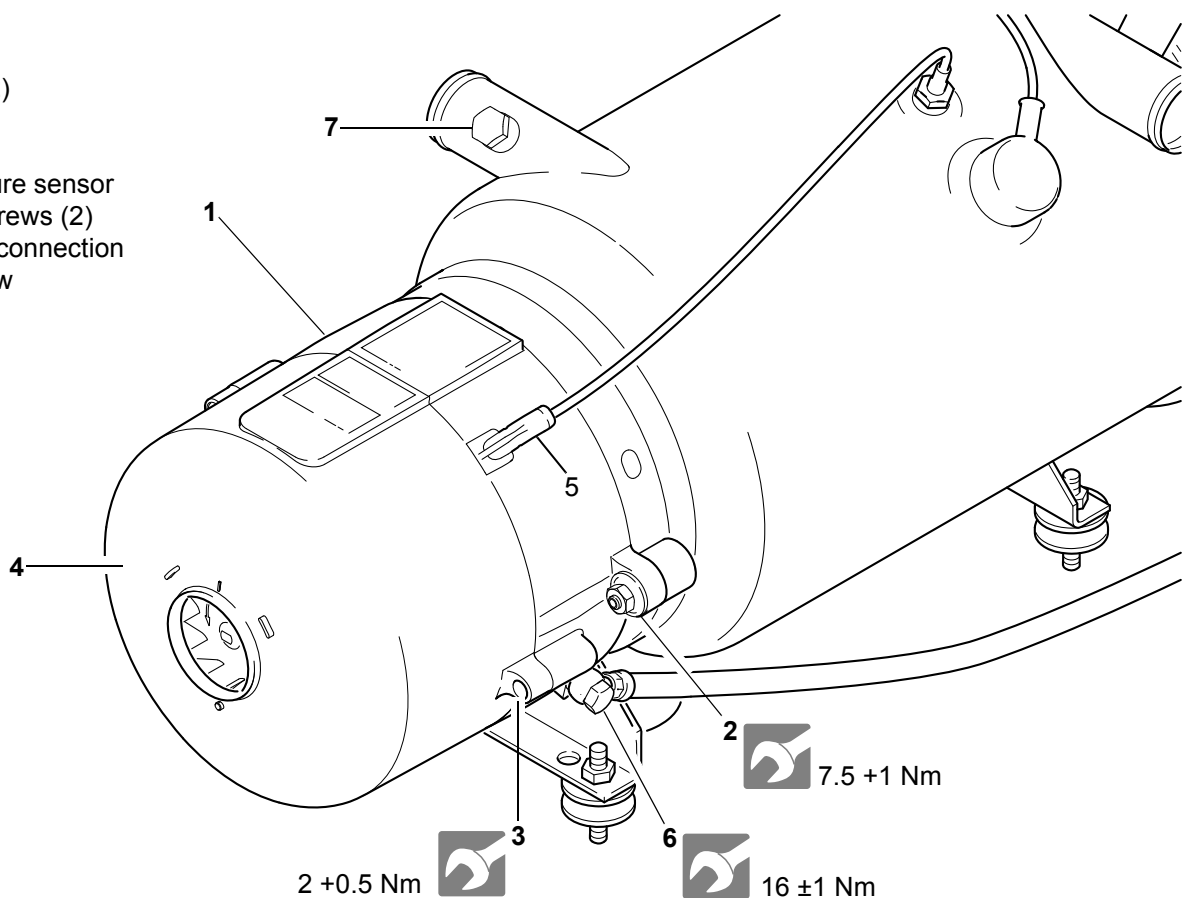
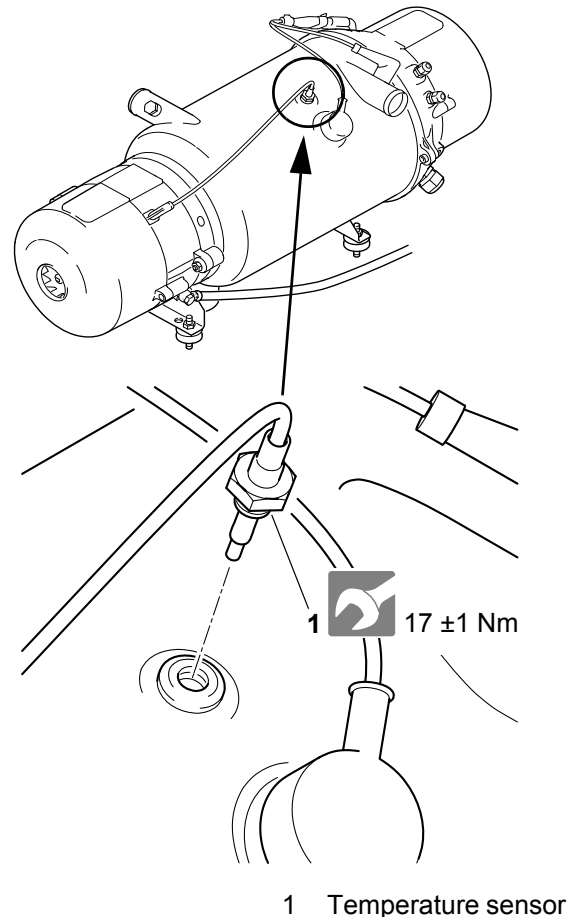

Fig. 809 Burner head / hood removal and installation
Fig. 810 Temperature sensor removal and installation
5. Remove the cable grommet of the temperature sensor (5, Fig. 809) from burner housing.
1. Bring burner (1, Fig. 809) in assembly position and ensure center alignment and correct fit.
2. Place nuts (2) and alternately tighten them slightly.
3. Tighten nuts (2).
4. If applicable, bolt fuel lines down using hollow screws (6) and new gaskets, or slide on fuel lines and secure with hose clamps.
5. Install the cable grommet of the temperature sensor (5) into the burner housing.
4. Remove the cable grommet of the temperature sensor (5, Fig. 809).
5. Unscrew and remove temperature sensor (1, Fig. 810).
1. Manually screw temperature sensor (1, Fig. 810) into the heat exchanger.
2. Tighten temperature sensor (1).
3. Install the cable grommet of the temperature sensor (5, Fig. 809).
2. Loosen screws (3, Fig. 809).
3. Remove hood (4).
1. Position hood (4, Fig. 809) in assembly position. Ensure center alignment, proper fit and seal towards heater wiring harness and cable grommet of the temperature sensor.
2. Screw in screws (3) and tighten.
12. Remove the screw plug (7, Fig. 809).
3. Screw the plug screw (7, Fig. 809) in and tighten it.